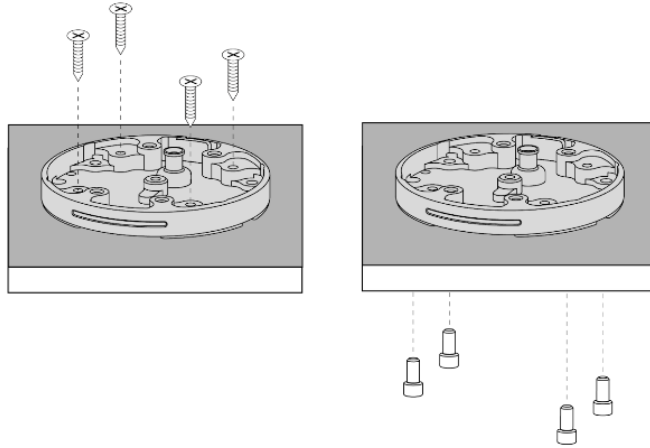

Figure 3: Mounting Options - Screws Orientation
- a. There are two options for base plate installation: (1) screw from under surface into base plate above OR (2) through base plate onto surface (see Figure 3).